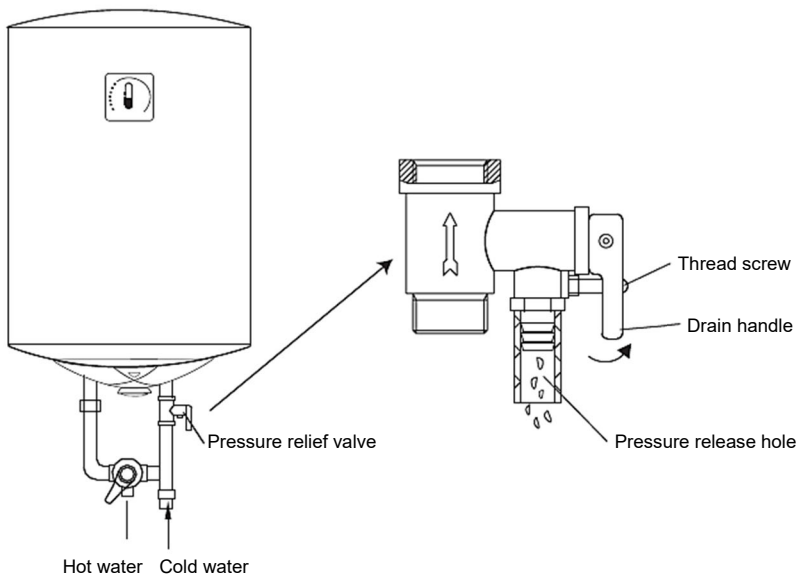

FIG 1
4. The pressure relief valve attached with the heater must be installed at the cold water inlet of this heater(see Fig.1), and make sure it is not exposed in the foggy. The water may be outflowed from pressure relief valve, so the outflow pipe must open wide in the air; The pressure relief valve need to be checked and cleaned regularly, so as to make sure it will not be blocked.
7. Unscrew the thread screw on the multifunction safety valve, and lift the drain handle upwards. (See Fig.1) to drain the water from the inner tank.